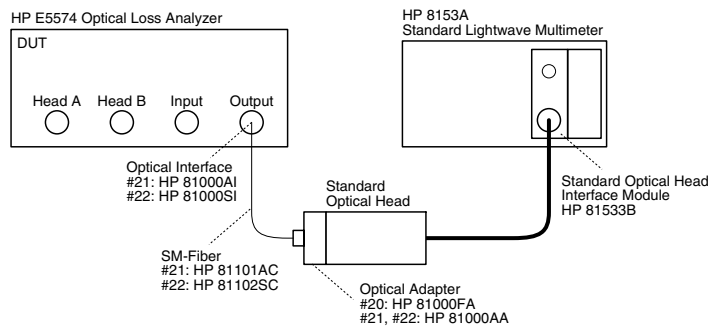

Figure D-3
- d Unmount the protection cap and connect the equipment as shown in Figure D-3.
- a Connect the equipment as shown in Figure D-3.
- d** Unmount the protection cap and connect the equipment as shown in Figure D-3.